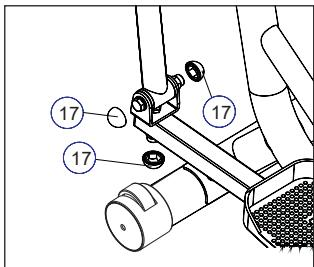

Figure 12
10.1 After the whole machine is finished installing, cover the Nut cover S=17 (17) at the joints of the U-shaped seat weldment of the left and the right swing arm. (see fig.12)